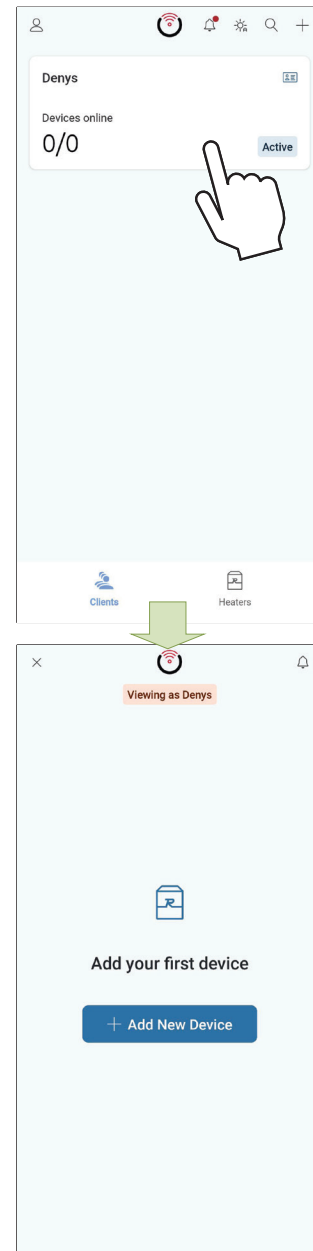

Figure 117. Access your Client's Heaters
7. You can access your client's heaters by clicking in each client tile. See **Figure 117**.